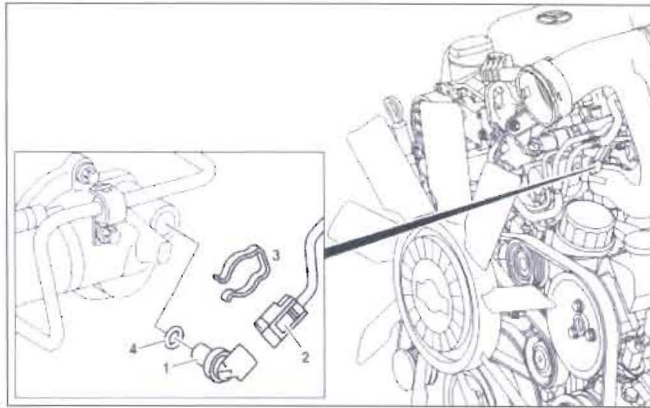

Figure 6 (shown with sensor removed)
16. Disconnect engine coolant temperature sensor connector (2, Figure 6) (do **not** remove sensor).